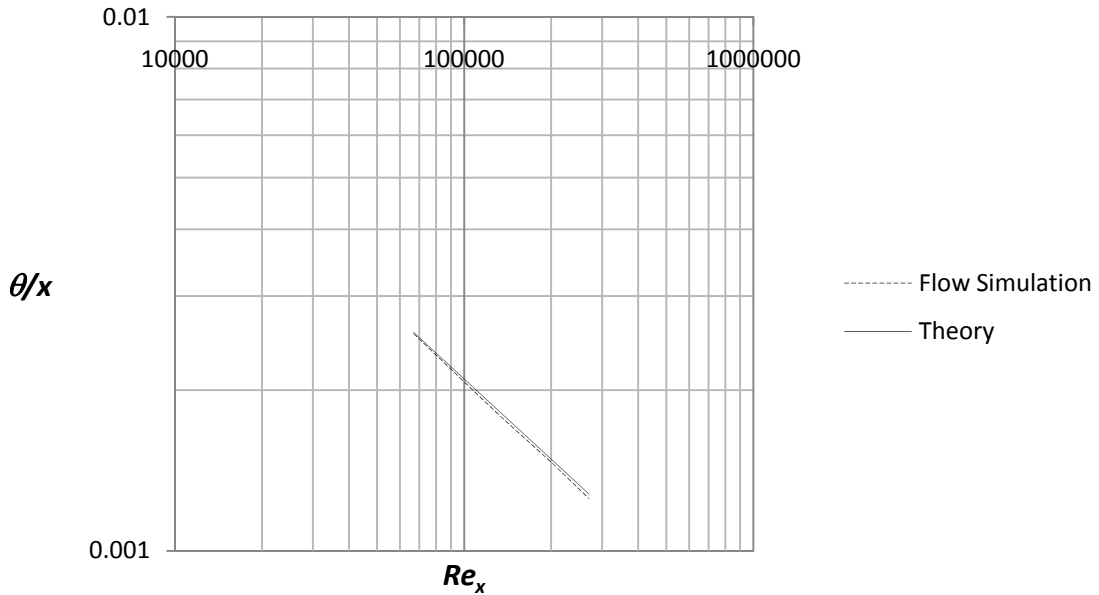

Figure 2.25d) Comparison between Flow Simulation and theory on momentum thickness
Place the file “xy-plot figure 2.25d)” into the **Local Disk (C:)/Program Files /SolidWorks (2)/SolidWorks Flow Simulation/lang/english/template/XY-Plots** folder to make it available in the **Template** list. Repeat step 24 and select the new template for the XY-plot as shown in figure 2.25d). Rename the xy-plot to **Momentum Thickness**.